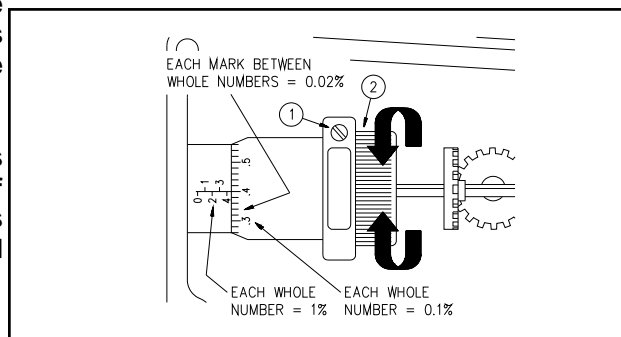

Figure 4
3. Turn the adjuster thimble (2) IN (top of thimble moves away from you) on the adjuster barrel to decrease the amount delivered. Turn the thimble OUT (top of the thimble moves towards you) on the adjuster barrel to increase the amount delivered. See Figure 4.